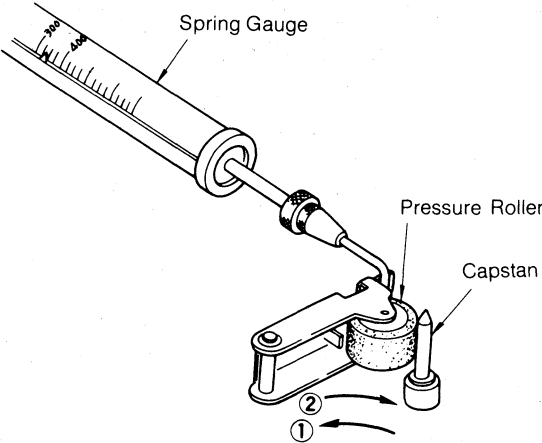

FIG. 12
- Hook spring gauge to arm of pressure rollers, as shown in Fig. 12.